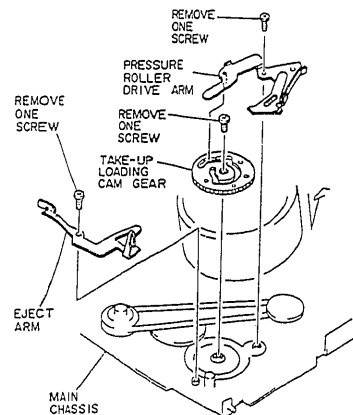

Fig. 2-57
1) Remove one (1) screw and remove the pressure roller drive arm from the main chassis. (See Fig. 2-57)
- (2) Eject Arm
2) Remove one (1) screw and remove the eject arm from the main chassis. (See Fig. 2-57)
- (3) Take-up Loading Cam Gear
2) Remove one (1) screw and remove the take-up loading cam gear from the main chassis. (See Fig. 2-57)